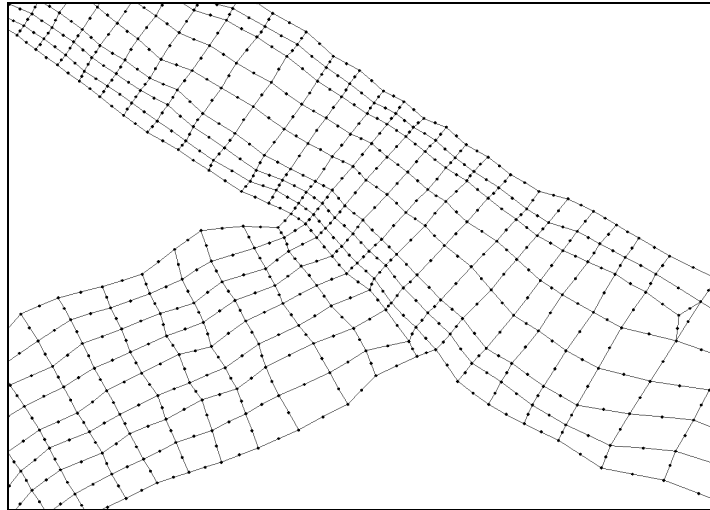

Figure 6-1. The area about which to zoom for the film loops.
to trace the path that particles of water will follow through the flow system. Only the visible portion of the mesh will be included in the film loop when it is created. For this tutorial, zoom into the portion of the mesh shown in Figure 6-1. To do this:
2. Click and drag the mouse to create a box about the area in Figure 6-1.